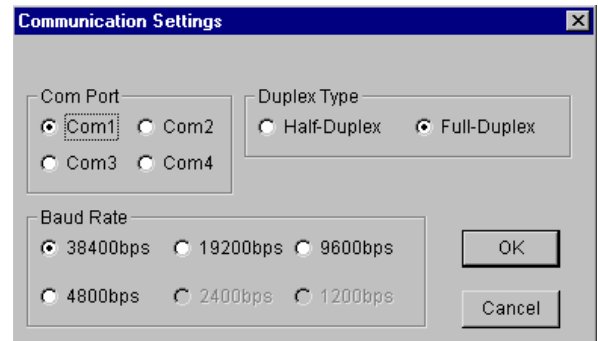

Figure 13
(1) Select the required Baud Rate, Duplex type, and Communications port for the PC that would match the ER-A520/530 settings. Click [OK] to return to the Main window. (Fig. 13)